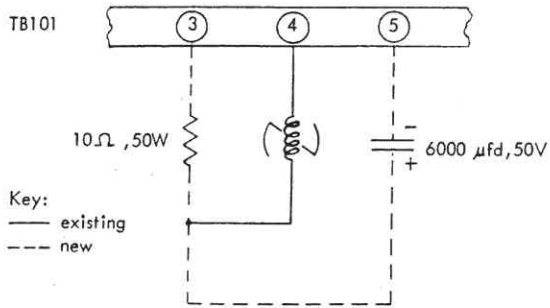

FIG. 10.01- EXTERNAL POWER CAPACITOR
Depending on torque and scan rate requirements, the CTLR10P/S2-S6 in the "As Sold" configuration sometimes will not adequately drive an S5 or S6 solenoid. When driving W62 wafers or more than three of any other model wafer on an S5 or S6 drive, the customer should always use a CTLR2 or CTLR2P. However, in those cases where the customer already has a CTLR10P, it may be used to drive an S5 or S6 solenoid providing (1) the scan rate is less than or equal to 2 ports/sec, and (2) the solenoid is wired to the controller with an additional resistor and capacitor as shown in Fig. 10.01.